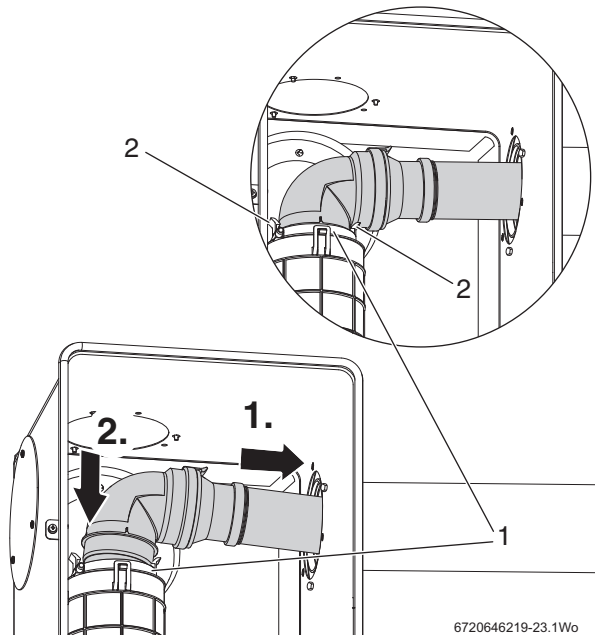

Fig. 39 Fitting the adaptor/elbow
1. Slide the adaptor into the inner flue tube of terminal as shown in figure 39.
2. Push the elbow into flue outlet until secured with the retaining clips (2) ensuring a good seal is made.